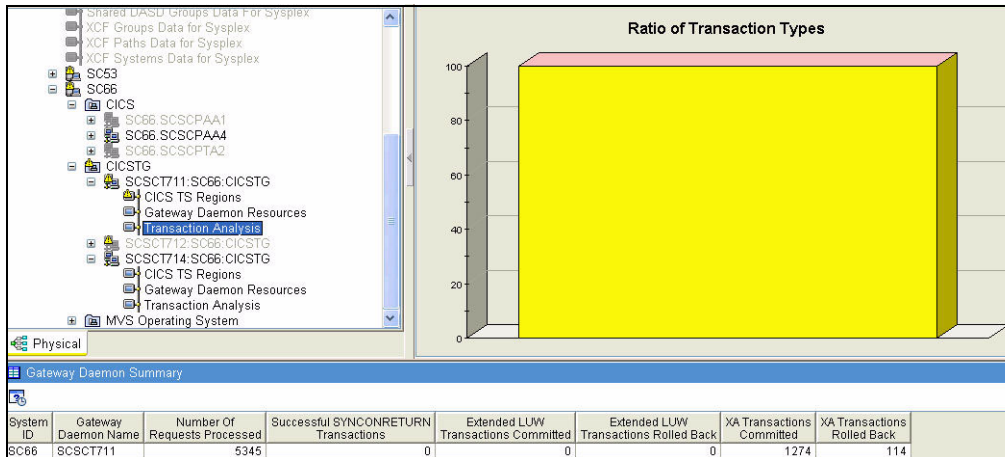

Figure 7-46 XA rollbacks in CICS TG SCSCT711 due to SCSCPA1 unavailability
In the time frame between the CICS failure and the moment when the health of its associated CICS TG is set to 0, the users will experience a certain number of ECI call failures that will cause WebSphere to send an XA rollback request to the associated Gateway daemon. This number (114) is displayed in our OMEGAMON XE Transaction Analysis view (Figure 7-46 on page 271).